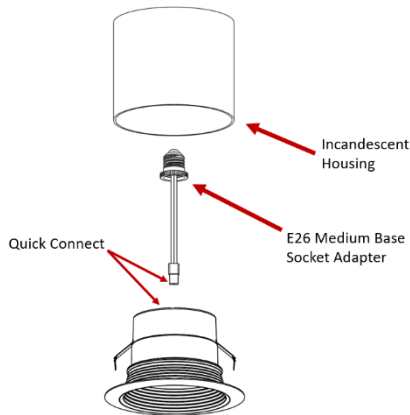

Figure 5
- I. **Installation into existing housings with medium base sockets:** Screw the medium base socket adaptor into the socket in the recessed housing. Plug the connector from the adaptor into the mating orange connector on top of the module's trim. Push firmly to ensure connectors are securely fastened (see *Figure 5*). **DO NOT LET THE MODULE HANG UNSUPPORTED BY THE ORANGE QUICK CONNECTOR!**